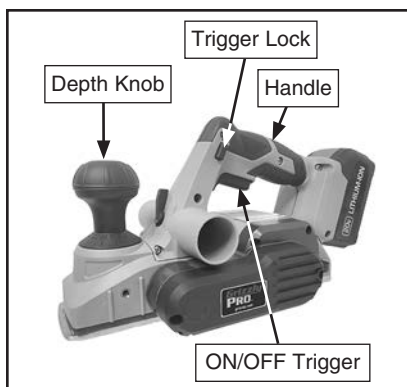

Figure 7. Controls on hand planer.
3. Pick up planer with one hand on depth knob and other hand on handle (see **Figure 7**), keeping cutterhead away from any surfaces or objects.
4. Press trigger lock and squeeze ON/OFF trigger. Allow cutterhead to reach full speed (see **Figure 7**).